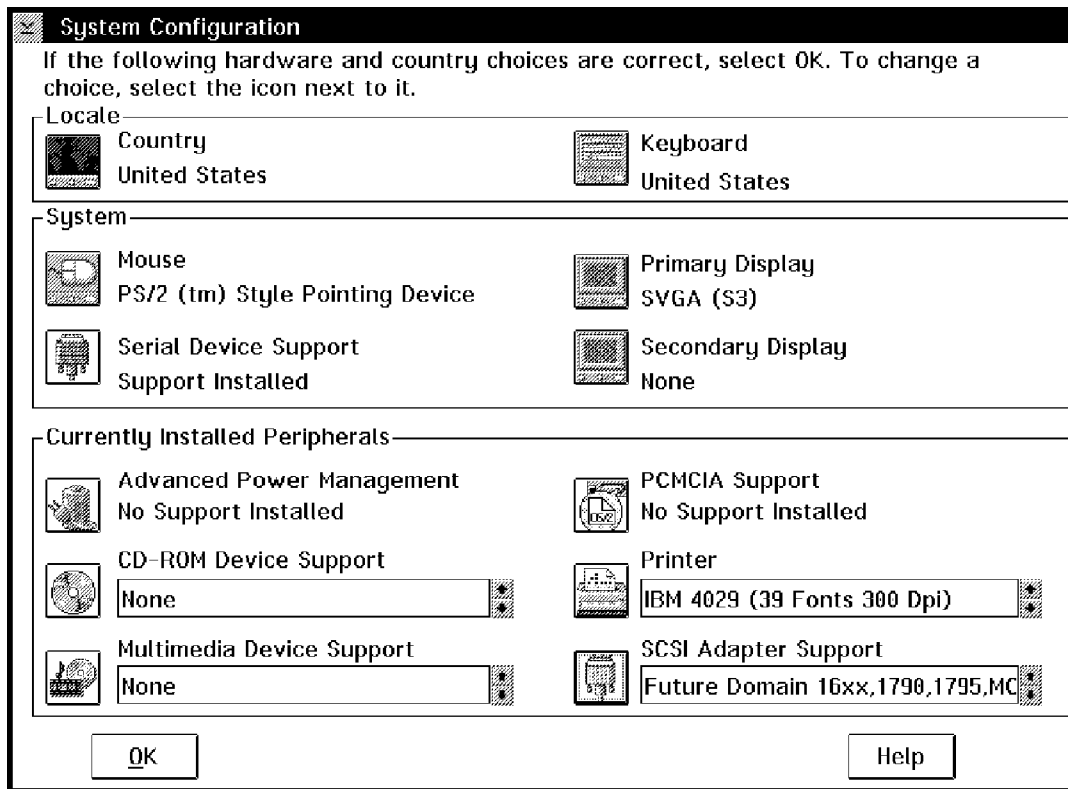

Figure 42. Selective Install of SCSI Support
3. Highlight **SCSI Adapter Support** as shown in Figure 42 on page 131.